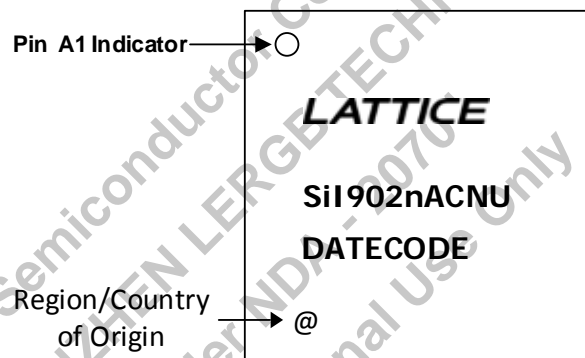

Figure 8.9. Alternate Topside Marking (SiI902n ACNU)
- Figure 8.9. Alternate Topside Marking \(Sil902n ACNU\) added